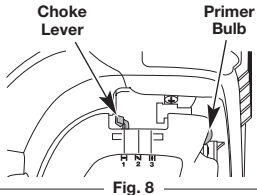
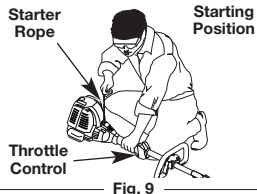

Fig. 8
Fig. 9
3. Fully press and release the primer bulb **10** times, slowly. Some amount of fuel should be visible in the primer bulb (Fig. 8). If fuel cannot be seen in the bulb, press and release the bulb until fuel is visible.
4. Move the choke lever to **Position 1** (Fig. 8).
5. Crouch in the starting position (Fig. 9).
6. **Continue to squeeze the throttle control.** Move the choke lever to **Position 2** (Fig. 9).
9. **Continue to squeeze the throttle control.** Move the choke lever to **Position 3** (Fig. 8).
5. Crouch in the starting position (Fig. 9). Place the electric starter or Power Start Bit™ into the back of the unit (Fig. 38). Refer to the *Operation* section of the Electric Starter or Power Start Bit™ operator's manual.
6. **SQUEEZE and HOLD the throttle control for ALL further steps.** Press and hold the electric starter or drill ON (I) button for 2 seconds.
7. **Continue to squeeze the throttle control.** Move the choke lever to **Position 2** (Fig. 8).
8. **Continue to squeeze the throttle control.** Press and hold the electric starter or drill ON (I) button for 2-second intervals until the unit starts.
11. **Continue to squeeze the throttle control.** Move the choke lever to **Position 3** (Fig. 8).
**IF...** the engine fails to start after a few attempts, move the choke lever to **Position 3** and squeeze the throttle control. Press and hold the electric starter or drill ON (I) button for 2-second intervals until the unit starts.
**IF THE ENGINE IS HOT...** Move the choke lever to **Position 2**, press the primer bulb **10** times, squeeze the throttle control, and press and hold the electric starter or drill ON (I) button for 2-second intervals until the unit starts. Run the unit for 2-5 minutes. The unit may be used during this time. Then move the choke lever to **Position 3**.